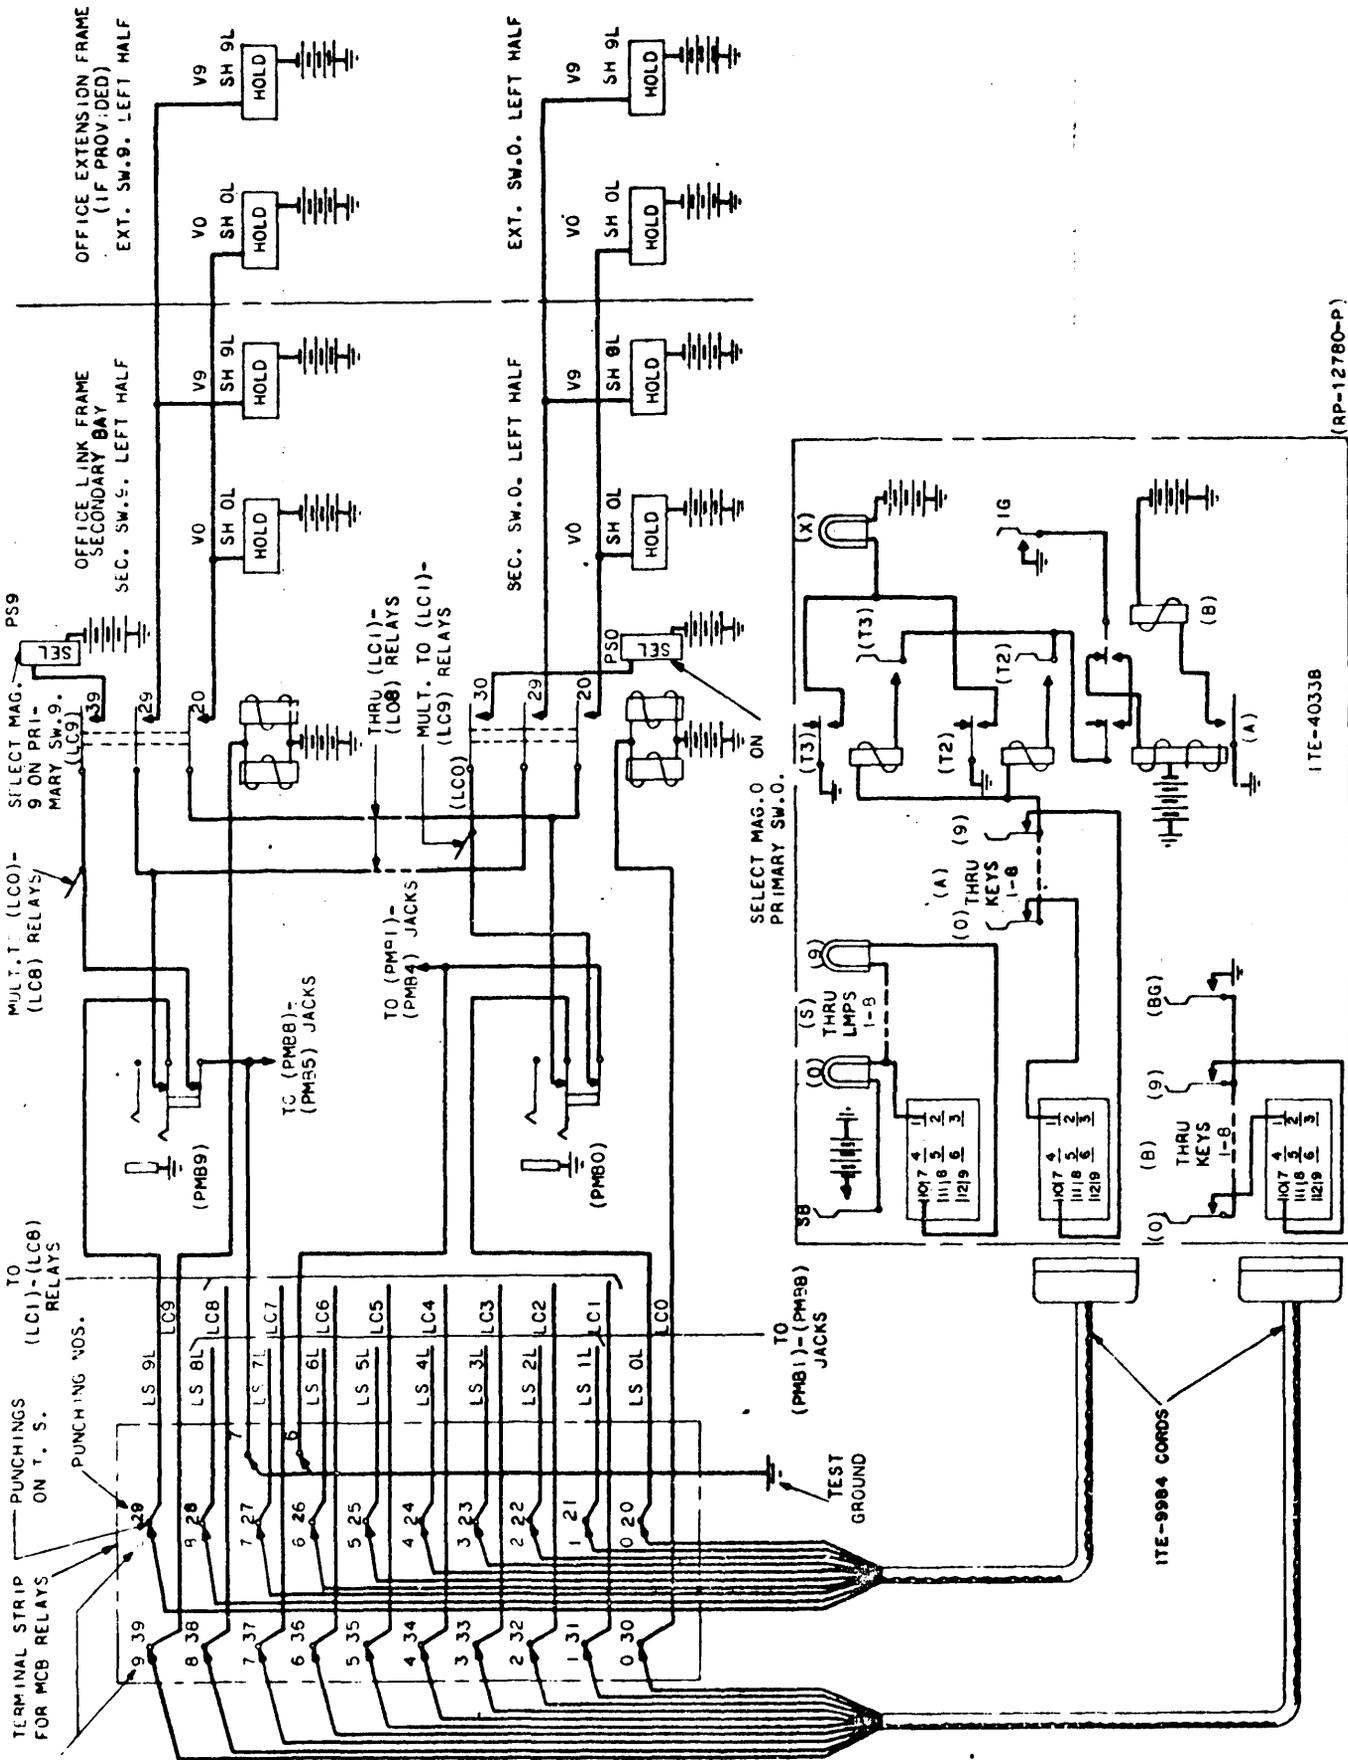

FIG. 10 SETUP FOR TEST OF SH LEADS LEFT HALF SWITCH AND LEFT HALF OF EXTENSION SWITCH (RP-12780-P)
### 12.21 Setup for Test (See Figure 10)
12.211 Change the setup of Paragraph 12.11 and Figure 9 to conform to Figure 10 by making the following changes: